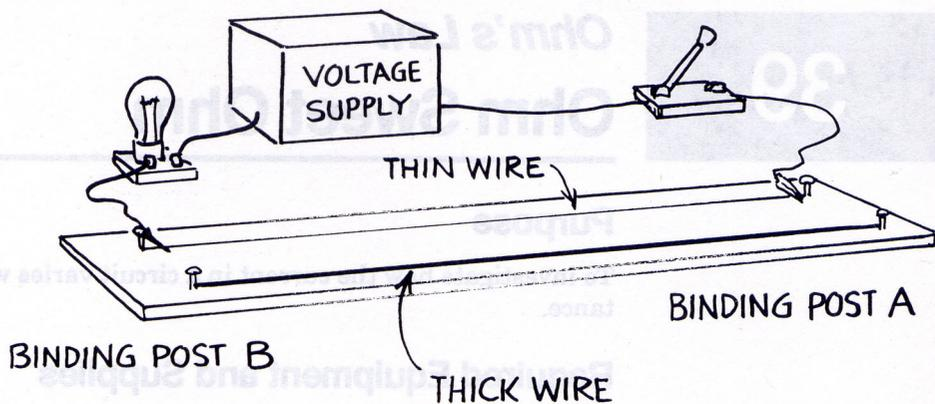

Figure 39.2
Step 2. Assemble the circuit as shown in Figure 39.2. Label one binding post of the Nichrome wire "A" and the other "B". Attach the ground lead (#1) of the voltage supply to one side of a knife switch. Connect the other side of the switch to binding post A of the thin Nichrome wire. Connect the 3-volt terminal (#3) from the voltage supply to a clip lead of a test bulb. Attach the other clip lead of the test bulb to the other binding post, B, on the Nichrome wire. The voltage supply is now connected so that the current passes through two resistances: the bulb and the nichrome wire. You will vary the resistance in the circuit by moving the clip lead of the test bulb from binding post B to A. First, using a \sim symbol for the bulb, \sim symbol for the wire, $|$ symbol for the voltage source, and a \swarrow symbol for the switch, draw a diagram that represents this series circuit.